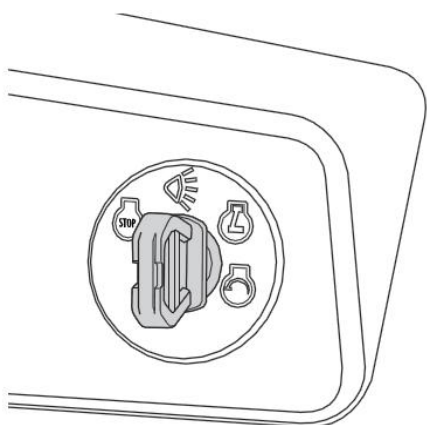

Fig.15
1. To turn on the headlights, turn the key from the RUN position to the HEADLIGHT position. (Fig.15)